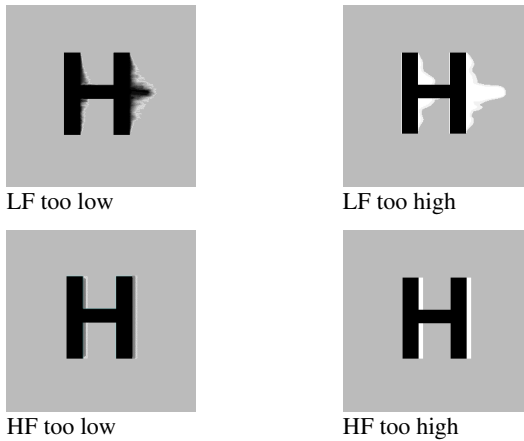

Figure 11 Problems with smearing and sharpness requiring LF and HF adjustment
8. Fine-tune the LF equalization to remove ‘black video smearing’ - black smears to the right of large objects such as window title bars (see Figure 11).
9. Fine-tune the HF equalization to sharpen the video image. Increase HF Equalization until a white edge to the right of small characters just starts to appear (see Figure 11).